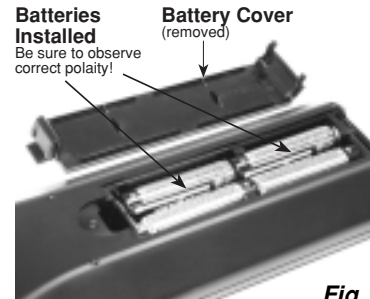

Fig. 4
2. Install 4 "AAA" Batteries (Alkaline recommended). Refer to **Fig. 4**. Be careful to observe correct polarity for each battery as shown and as marked on the inside of the battery compartment.